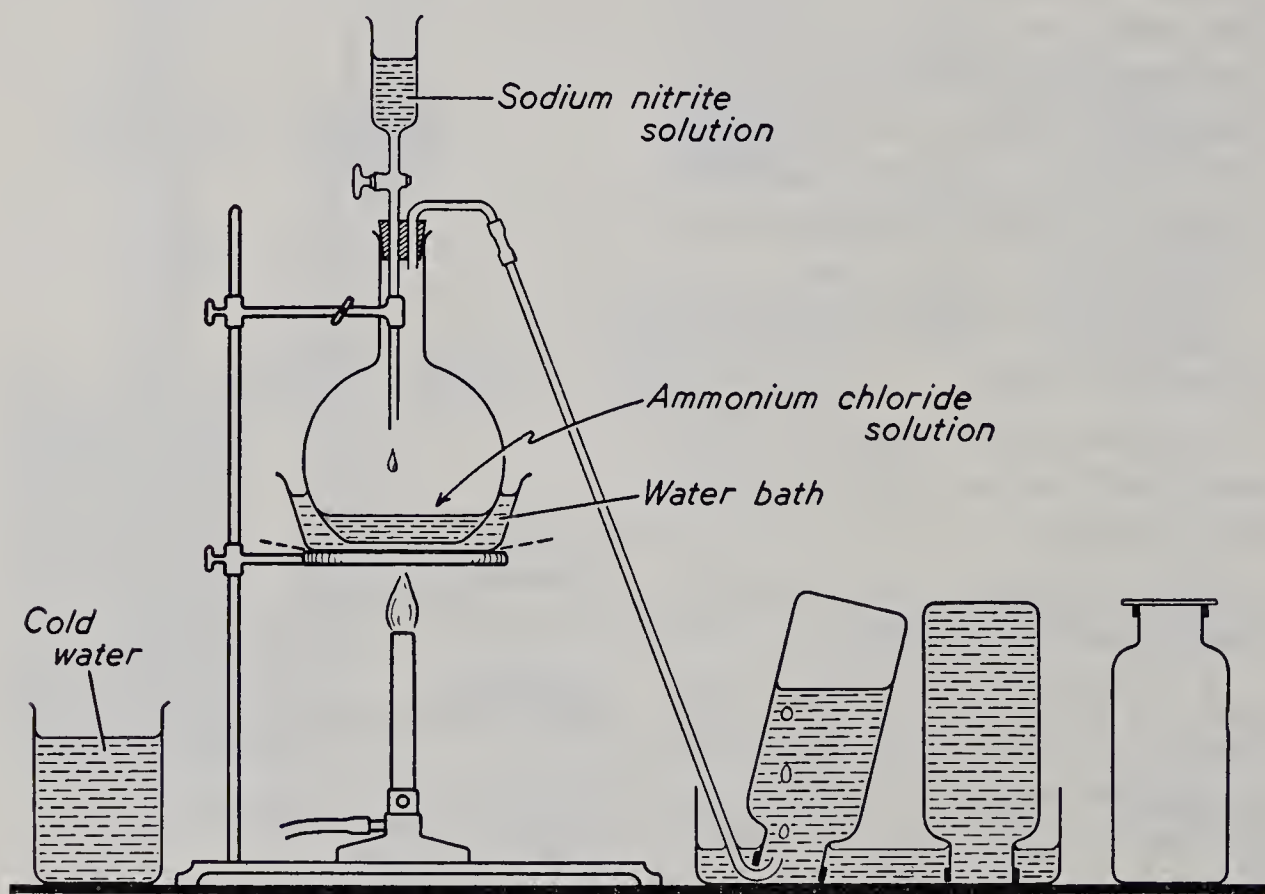

Fig. 28. The laboratory preparation and collection of pure nitrogen.
1. Prepare a solution of sodium nitrite by stirring 20 gm. of the salt in 100 ml. of water. Place 30 ml. of a saturated solution of ammonium chloride in a flask fitted with a dropping funnel and a delivery tube (Fig. 28). Place the flask in a water bath and pour some of the sodium nitrite solution into the dropping funnel. Have a beaker of cold water handy.